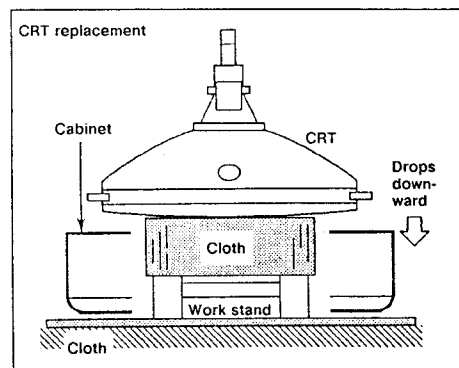

Fig. 5
- As indicated in Fig. 5, place an under layer of soft cloth. A top of this, prepare a work stand also covered with soft cloth.